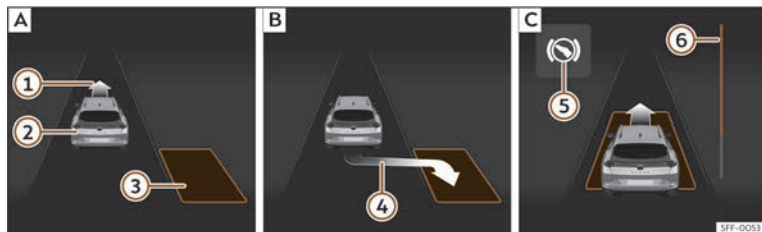
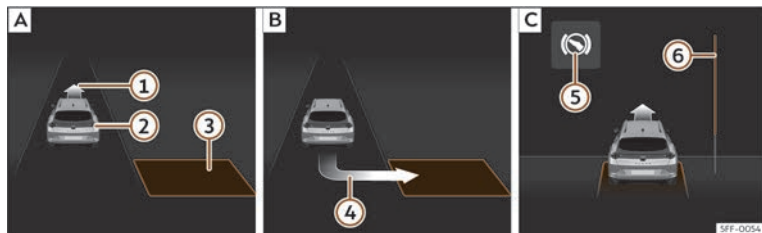

Fig. 182 On the instrument panel display: parallel parking. **[A]** Finding a parking space. **[B]** Parking position. **[C]** Manoeuvring.
Fig. 183 On the instrument panel display: angle parking. **[A]** Finding a parking space. **[B]** Parking position. **[C]** Manoeuvring.
- Look at the display on the instrument panel to see if the space has been detected as “appropriate” and if the correct position for parking has been reached»» **Fig. 182 [B]** or»» **Fig. 183 [B]**. The space is considered
- Reverse until the continuous ParkPilot signal sounds; **OR:** reverse until the indication to move forward appears on the instrument panel display >>> Fig. 182 [C] or >>> Fig. 183 [C]; **OR:** reverse until the **Park Assist finished** message appears on the instrument panel display. The progress bar ⑥ indicates the distance to cover >>> page 281.
- Press the brake pedal until the parking assist system completes the steering wheel turns; **OR:** until the symbol (S) goes out on the instrument panel screen.
- Move forward until the continuous ParkPilot signal sounds; **OR:** move forward until the reverse indication appears on the instrument panel display. The Park Assist system steers the vehicle forward and back until it centres it in the space >>> Fig. 182 [C] or >>> Fig. 183 [C].
The progress bar >>> Fig. 182 ⑥ and >>> Fig. 183 ⑥ on the screen of the instrument panel displays the relative distance to be covered. The greater the distance, the fuller the progress bar. When driving forward, the content of the progress bar decreases upwards, and when reversing, it decreases downwards.